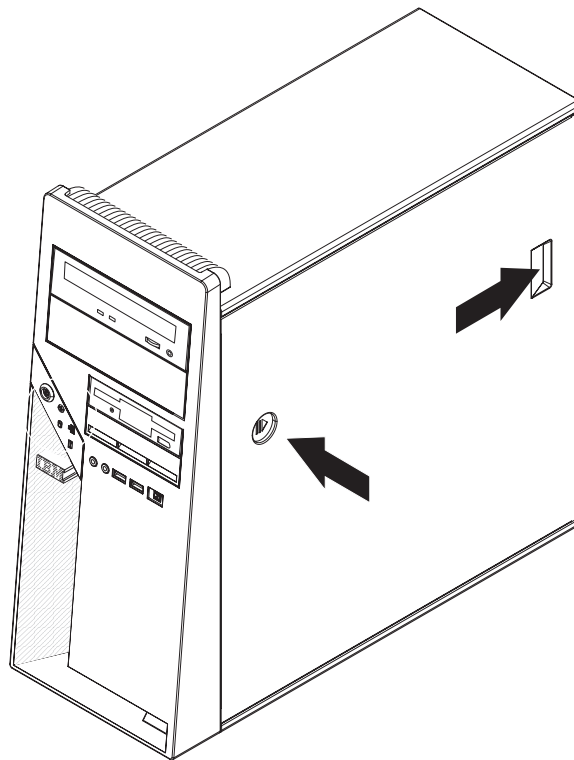

Figure 10. Removing the side cover
4. Press the cover-release button on the side of the computer, and push the side cover toward the rear of the computer (see Figure 10). Lift the side cover off the computer and set it aside.